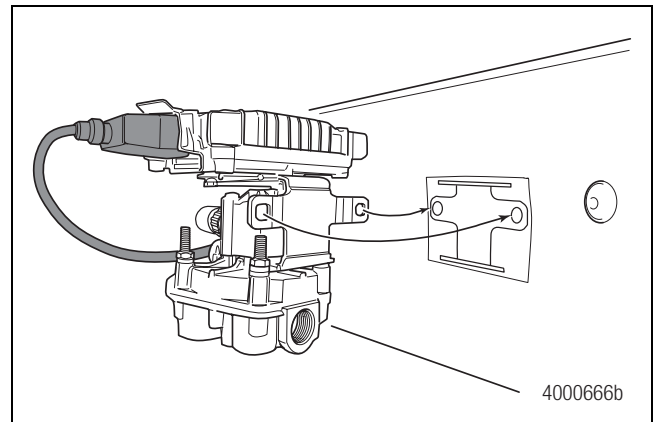

Figure 19
4. Attach the replacement assembly to the vehicle. Use two 3/8-inch (9.52 mm) Grade 8 bolts with prevailing torque nuts and washers to attach the assembly to the vehicle cross member. Tighten the bolts to 18 ft-lb (24 N•m). Figure 19. **ⓘ**